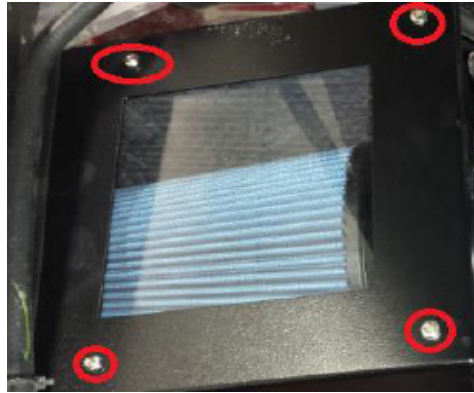

Figure 8
8. Peel protective paper from airbox lid and install airbox lid using attached quarter-turn fasteners circled in figure 8.